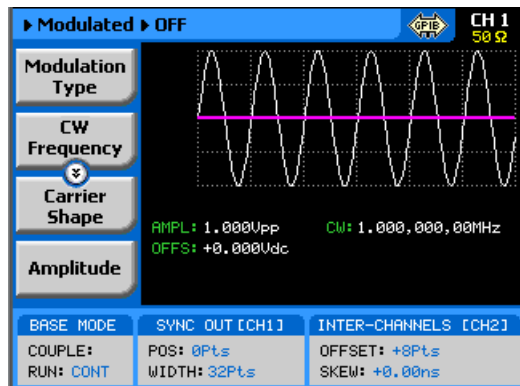

Figure 3-31, The Modulation Function Main Screen
The modulation function is turned on immediately after you press the Modulation button in the Functions group on the right side of the generator. By default, modulation is turned off and therefore, the output generates carrier wave (CW). The first modulation screen is shown in Figure 3-31. The modulation functions and their parameters are described as follows: